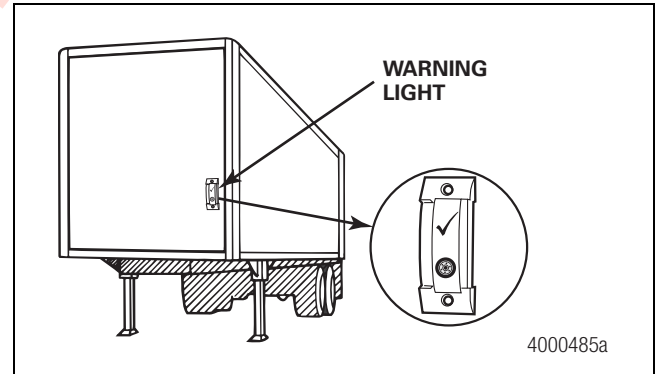

Figure 4.3
4. Check the warning light by opening the drain petcock at the control box. The light will come ON to indicate that it's operating correctly. Figure 4.3.